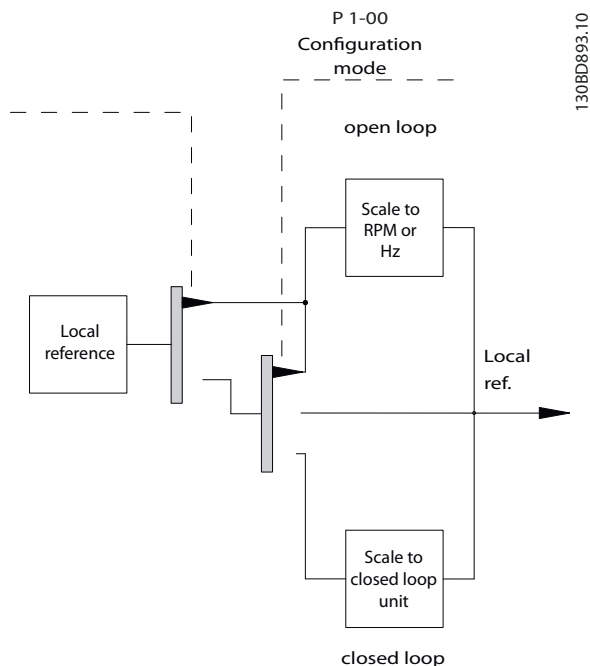

Figure 2.14 Configuration Mode
- Figure 2.14 illustrates manual configuration mode for local reference.